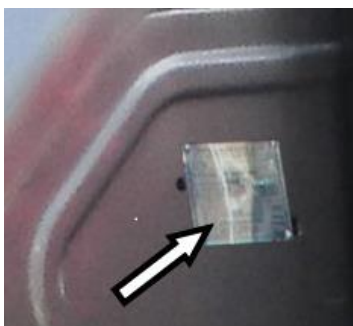

Fig. 1a
- on tractor identification plate, on the right mudguard, riveted from inside (Fig. 1a), The plate contains tractor serial number, engine serial number, certificate number, etc.